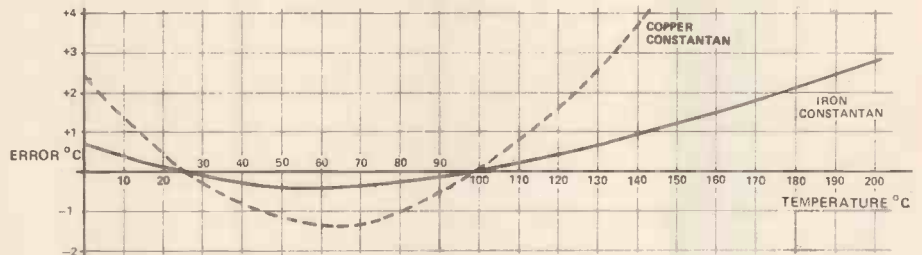

Fig. 7. Comparison of errors for copper/con and iron/con thermocouples calibrated at ambient and 100°C.
Because most thermocouples are non-linear (i.e. do not have a directly proportional relationship between voltage and temperature) they are usually compensated over the temperature range used. However with iron/constantan the non-linearity is less than 1°C from 0 to 140°C and less than 3°C up to 200°C. If greater accuracy than this is required, the correction graph (Fig. 7) should be used. It is possible to build correction circuitry into the instrument, but this is very complex and costly.
- M1 meter 1mA FSD scaled 0-100 or scaled to Fig.7